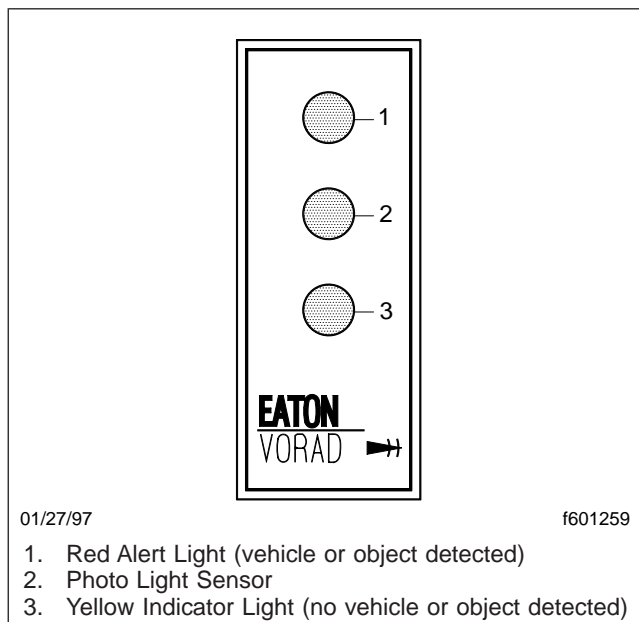

Fig. 2.25, Side Sensor Display, Optional
1. The yellow indicator light illuminates continuously when no vehicle is detected by the side sensor(s). See Fig. 2.25.